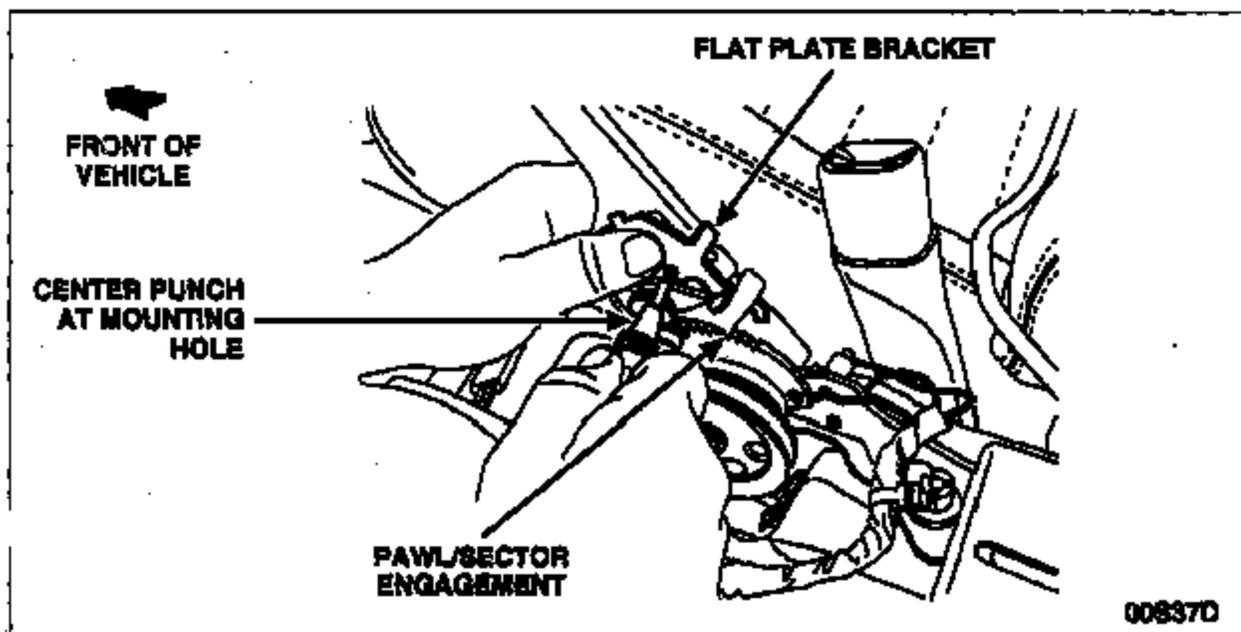

FIGURE 4
8. **On 2001 model year vehicles, be sure to apply parking brake (lever in the upward position). Make sure the self-adjust pawl is fully engaged in the sector, then position the flat plate bracket on the parking brake control assembly as shown in the illustration. Center punch the side of the control assembly at the center of the bracket mounting hole. See Figure 4.**